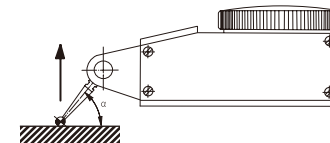

Fig.4
- If this is not possible, the intermediate angle must be determined (Fig. 4) and the indicator reading must be multiplied by the correction factor given below.